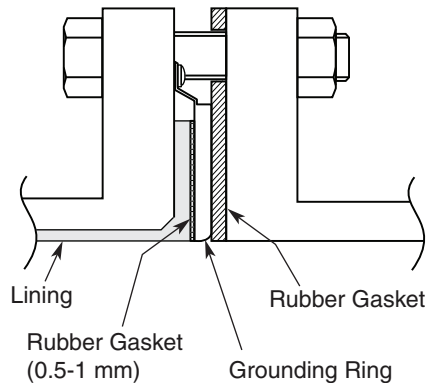

Figure 31. Installation on PVC Pipe with 316 ss Grounding Ring (with Rubber Gasket)
3. Use this method to install the flowtube using a low-fastening torque and rubber gaskets. Remove the grounding ring from the flowtube, insert a rubber gasket 0.5 to 1.0 mm thick between the lining and the grounding ring, then reinsert the grounding ring. Then remove the PTFE gasket, and attach a gasket 3 to 4 mm thick instead. Under these conditions, attach the flowtube to the pipe as shown in Figure 31. Fasten the bolts to a torque that provides a leakproof joint.